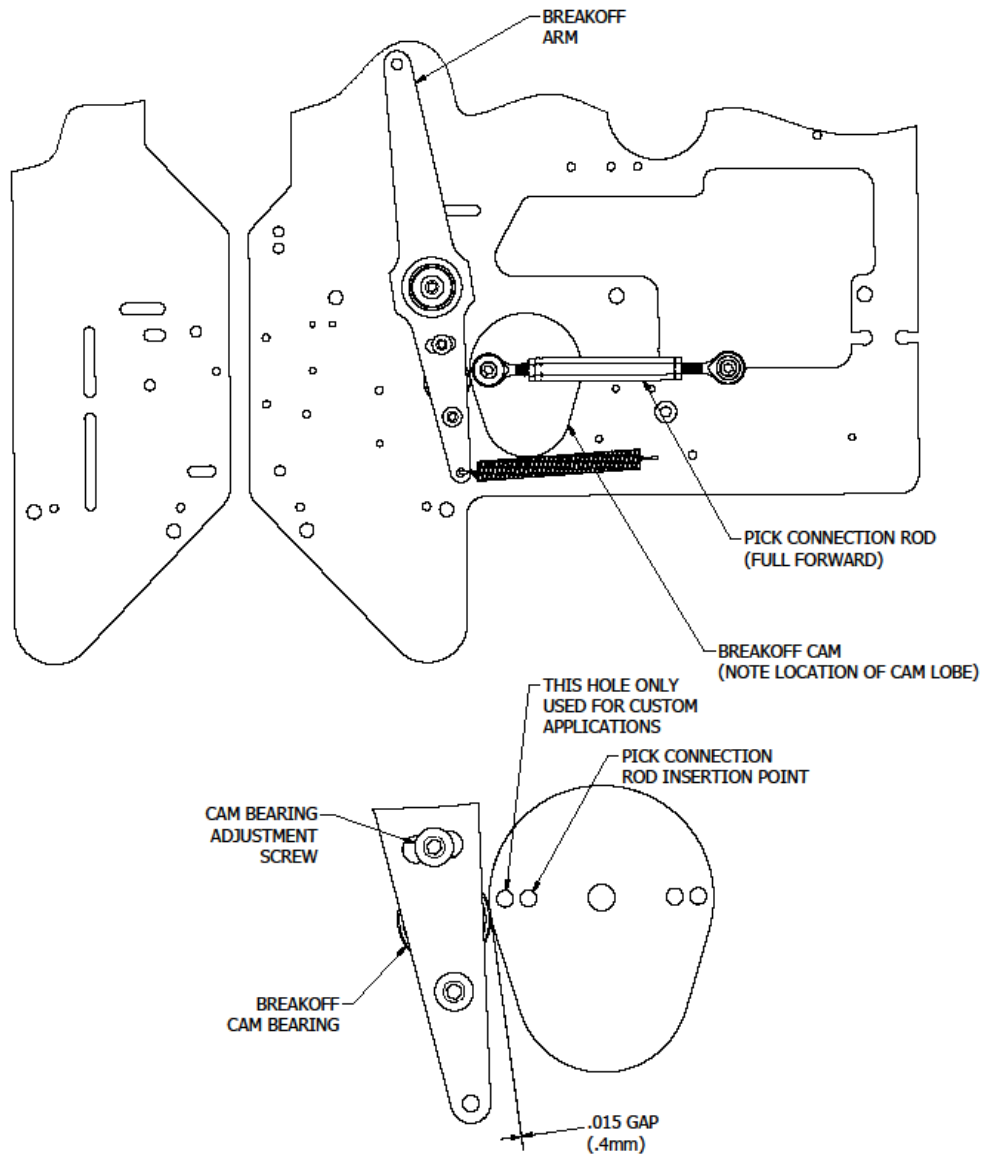

Figure 5.1
2. Loosen the cam bearing adjustment screws and rotate the bearing toward or away from the breakoff cam until the desired gap is achieved. 1/32 Gap. *Reference Figure 5.1.*